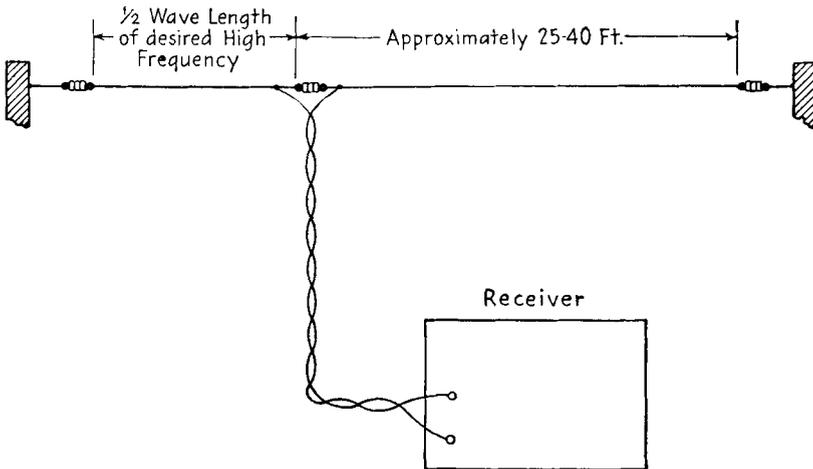

FIG. 17-25. The asymmetrical dipole antenna.
**Asymmetrical dipole antenna for all-wave reception.** A system often used for all-wave receivers is that in which one section of the flat-top is made responsive to a particular short-wave frequency, and the other section is made considerably longer for a better pickup on the broadcast band. Matching transformers at the antenna and receiver ends of the leadin are also common. The short section is usually one-half the wave length of the desired short-wave frequency. Such an antenna is shown in Fig. 17-25.